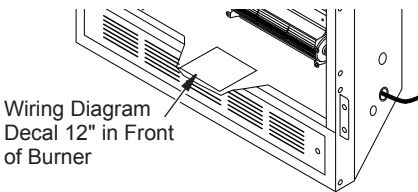

Figure 27 - Location of Wiring Diagram Decal (Model May Vary from Illustration)
10. Peel off backing paper and stick supplied wiring diagram decal on firebox bottom approximately 12" in front of blower (see Figure 27).
- Peel off backing paper and stick supplied wiring diagram decal on firebox bottom approximately 12" in front of blower (see Figure 27, page 19).